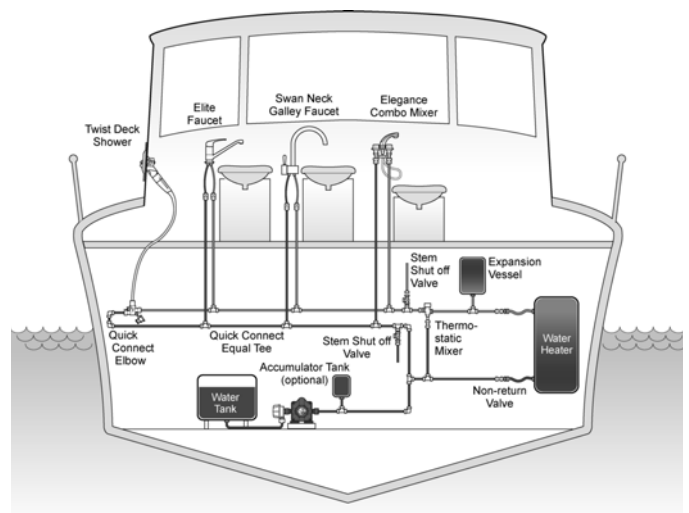

Figure 5 - Typical Hot Water System
- The Thermostatic Mixer Valve can be installed either on each outlet or as a central control in a hot water system. (See figure 5).